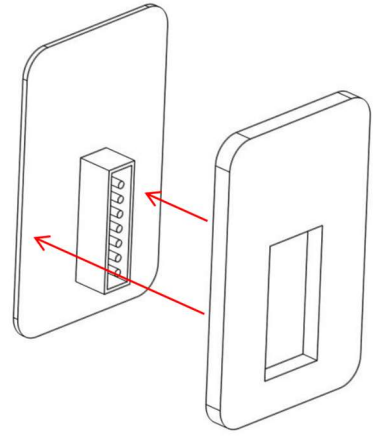

Figure 43: Press the sticky side of the foam onto the back of the mode pad.
4. Peel backing paper from one side of the double-sided foam. Press the sticky side of the foam onto the back of the mode pad (Figure 43).